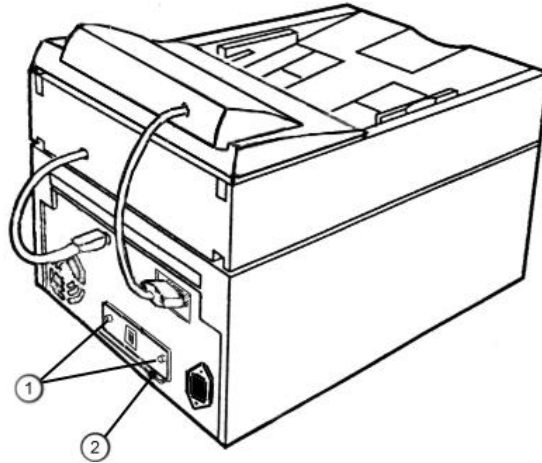

fig. 4.7
1) unscrew the two security screws (① in figure 4.7) and pull the NC, grabbing its lower edge (② in figure 4.7).